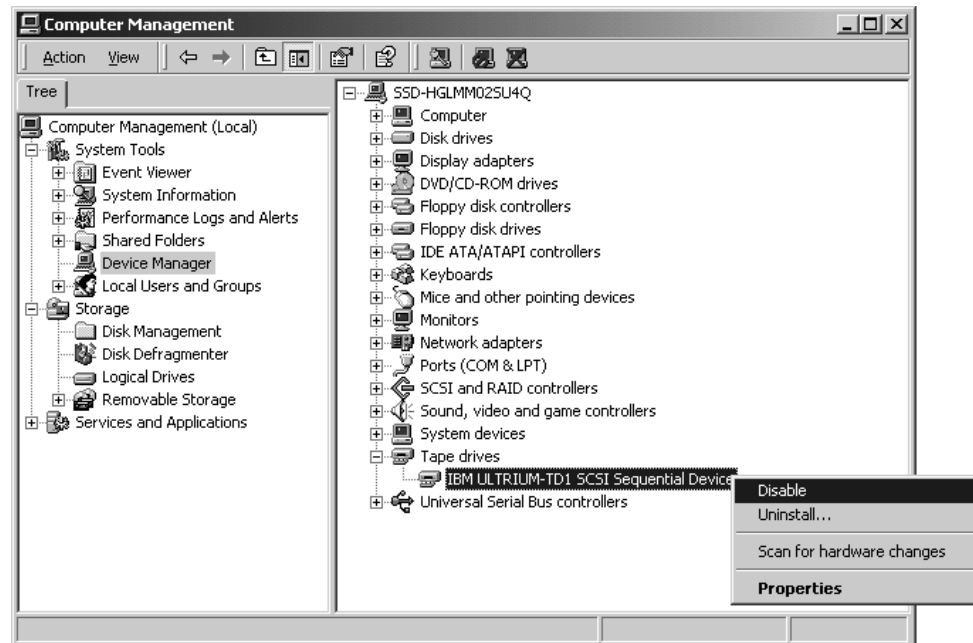

Figure 49. My Computer Menu
1. Right-click **My Computer**, then click **Manage**. See Figure 49.